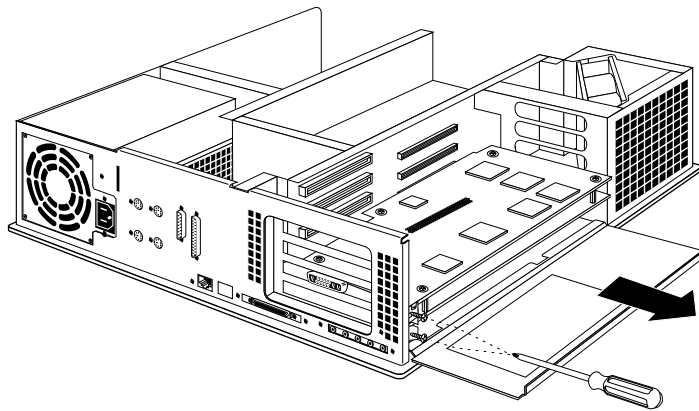

Figure 8-5 Removing the Screws From the Metal Extension
4. Remove the screws attaching the board to the system slots as shown in Figure 8-5.
Note: Figure 8-5 shows an XZ graphics board set. If your system has the Extreme graphics board set, there will be three screws to remove.